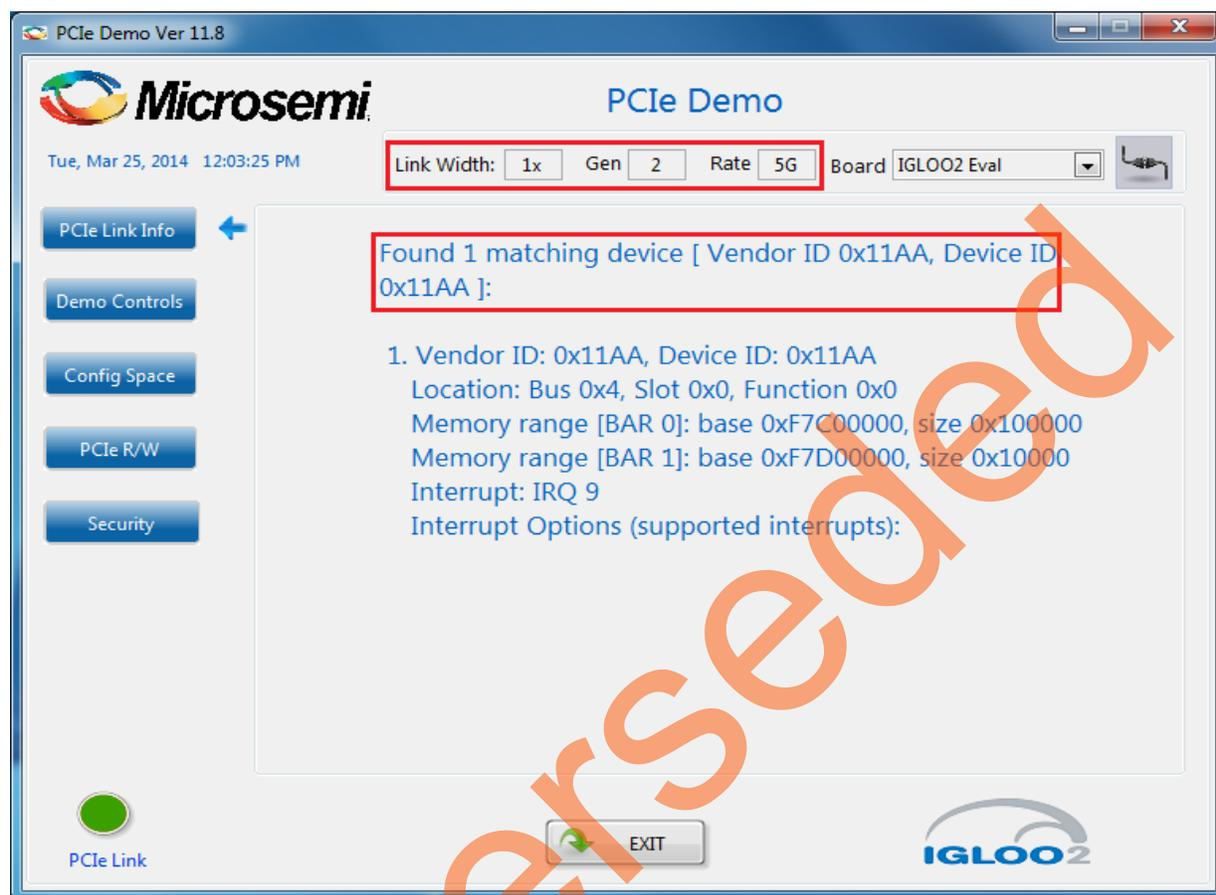

Figure 19 • Version Information
3. Click **Connect** at the top-right corner of the GUI. The messages are displayed on the GUI as shown in Figure 19.